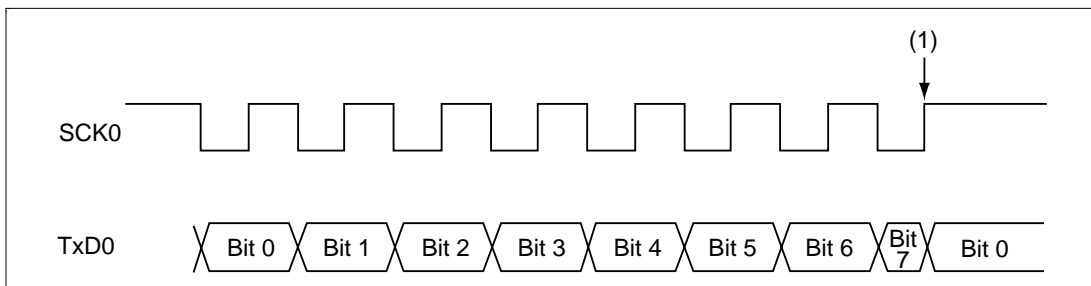

Figure 16.8 Transmission Chart when Using FIFO Stop Function (Odd Number of Bytes Set)
The output data hold specification cannot be satisfied by switching to the LSB (first data) at the point at which the output data of the MSB (last data) of the last byte is (1) (see figure 16.8).